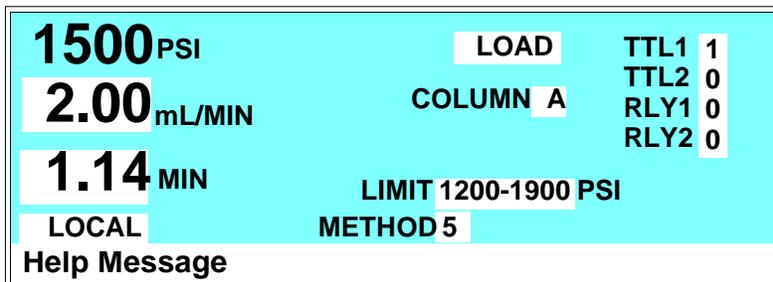

Figure 2-9. Main Screen
1. Go to either the **MAIN** or **DETAIL** screen. The operating mode field displays either **LOCAL** or **REMOTE** (see Figure 2-9).
1. Go to either the **MAIN** or **DETAIL** screen. The control mode field displays either **DIRECT CNTRL** or **METHOD** (see Figure 2-9).
When the pump is powered up, it is in Local mode (see Figure 2-9). In Local mode, the pump accepts operating commands from two sources: